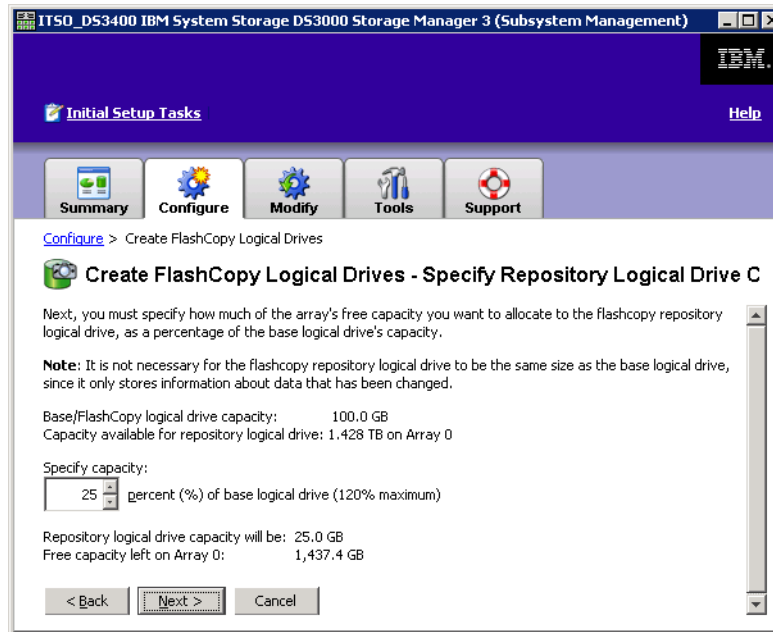

Figure 9-69 FlashCopy -Specify Repository
7. In the Create FlashCopy logical drive wizard, you will use this calculated value in the Repository Capacity window to specify the percentage (%) full box of base logical drive to set the estimated FlashCopy repository logical drive capacity (see Figure 9-69 on page 194).
3. Both ways will bring you to the Specify Repository Logical Drive Capacity view (Figure 9-69). Here you specify how much of the array’s free capacity you want to allocate to the FlashCopy repository logical drive, as a percentage of the base logical drive’s capacity. Calculating this capacity is described in 9.4.2, “Estimating FlashCopy repository logical drive capacity” on page 185. Enter a value, depending on your requirements, and click **Next**.